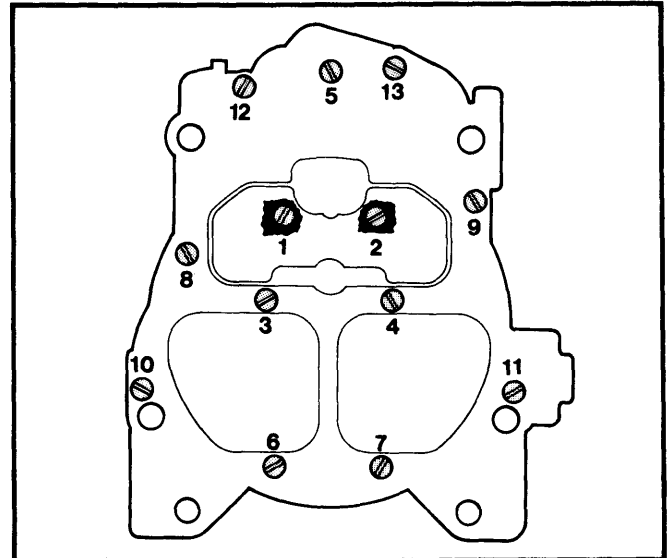

Fig. 16 Air Horn Screw Tightening Sequence
- 5) When installing air horn screws, note that the California models are equipped with 13 air horn-to-float bowl screws and Federal models are equipped with only 9. For California models, install and tighten screws evenly, securely and in order shown in Fig. 16. On Federal models, tightening sequence is 1 thru 7 as shown, then 10 and 11.